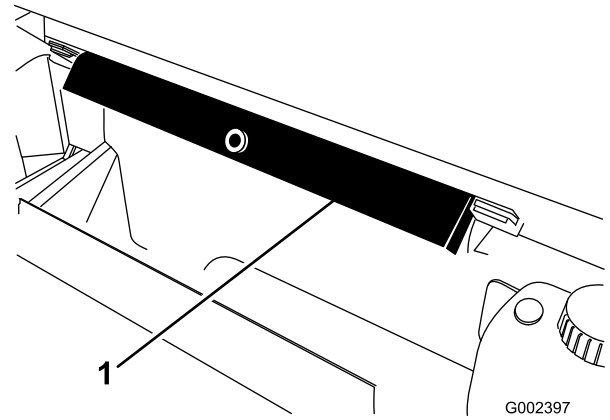

Figure 6
6. Remove the bed support from the storage brackets on back of the ROPS panel (Figure 6).